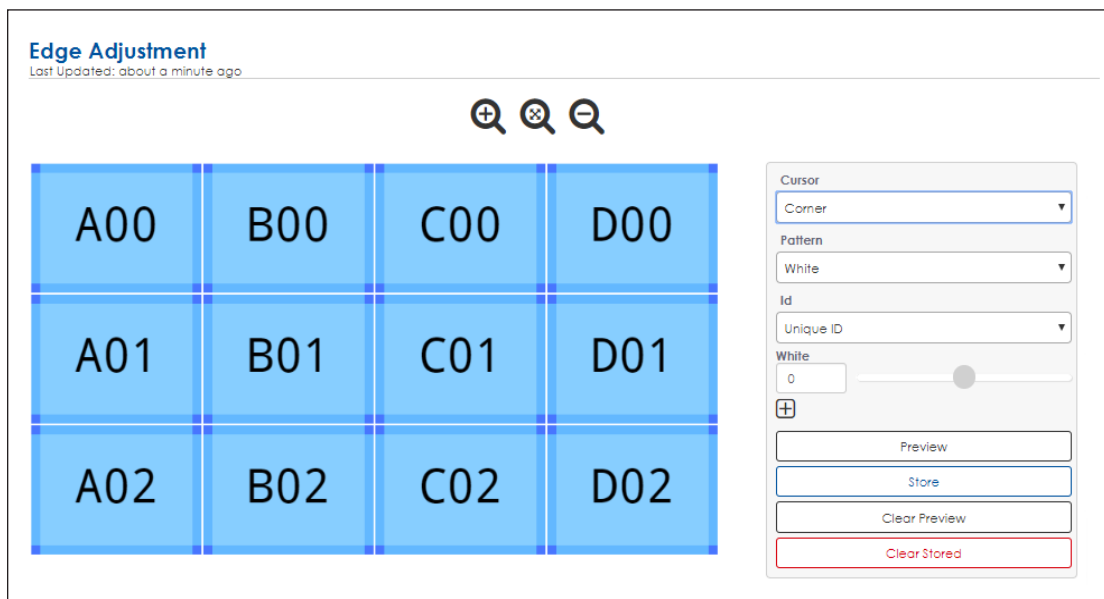

Figure 66: Edge Adjustment
3. Click **Start** to open the **Edge Adjustment** tool. A graphic representation of the display modules (or tiles for NPP displays) opens with adjustment tools along the right side. Refer to **Figure 66**.